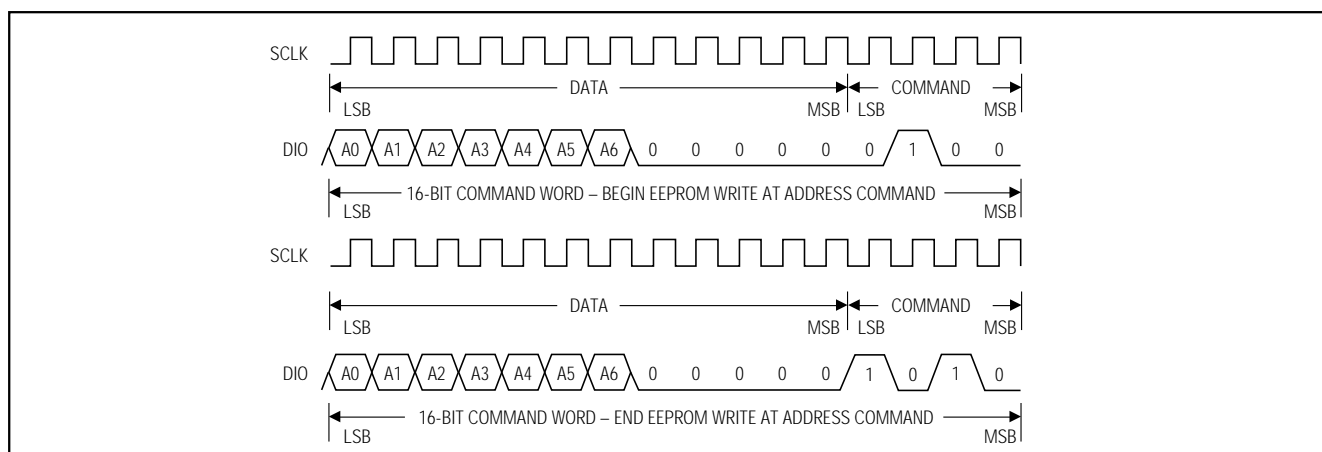

Figure 7. Begin WRITE EEPROM and End WRITE EEPROM Timing Diagrams
- 5) Issue a BEGIN EEPROM WRITE command (Figure 7) at the address of the bit to be set.
- 7) Issue an END EEPROM WRITE command (Figure 7) using the same address as in Step 5.